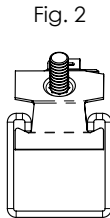

Fig. 2
2. Fig. 2: Rotate clip and engage double tabs under rolled edge of channel.